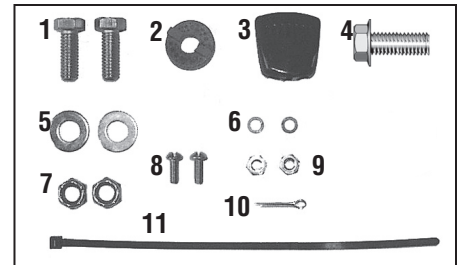

Figure 2-1: Loose hardware (shown in reduced size).
3. A bag with loose hardware is inside the literature envelope. Check the contents against the following list and Figure 2-1.